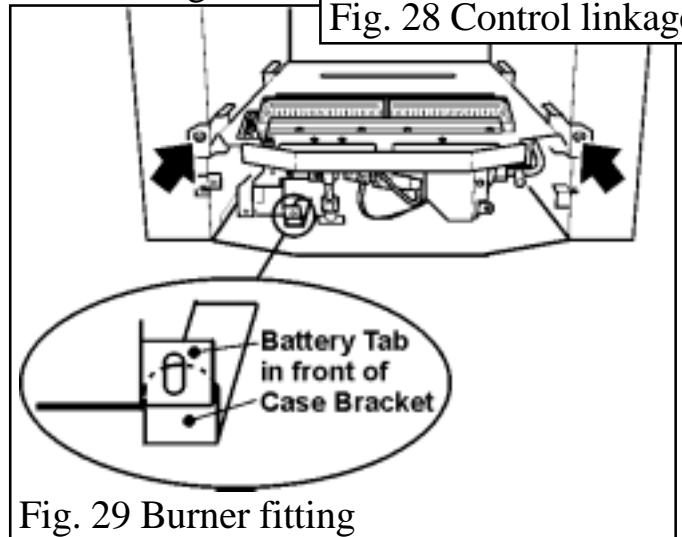

Fig. 29 Burner fitting
10.4.5 Detach the burner unit from the convection box by removing three screws (see figure 29). Lift the burner unit clear.
10.4.6 Refit in the reverse order. Make sure that the tab at the right side of the battery box is in front of the “L” shaped bracket which projects up from the fire case base. See figure 29.
10.5.6 Refit in the reverse order. When refitting the burner unit, make sure that the tab at the right side of the battery box is in front of the “L” shaped bracket which projects up from the fire case base. See figure 29.
10.7.8 Refit in the reverse order. When refitting the burner unit, make sure that the tab at the right side of the battery box is in front of the “L” shaped bracket which projects up from the fire case base. See figure 29.
When refitting the burner unit, make sure that the tab at the right side of the battery box is in front of the “L” shaped bracket which projects up from the fire case base. See figure 29.
10.9.9 Refit in the reverse order. When refitting the burner unit, make sure that the tab at the right side of the battery box is in front of the "L" shaped bracket which projects up from the fire case base. See figure 29.
10.10.4 Refit in the reverse order. When refitting the burner unit, make sure that the tab at the right side of the battery box is in front of the "L" shaped bracket which projects up from the fire case base. See figure 29.